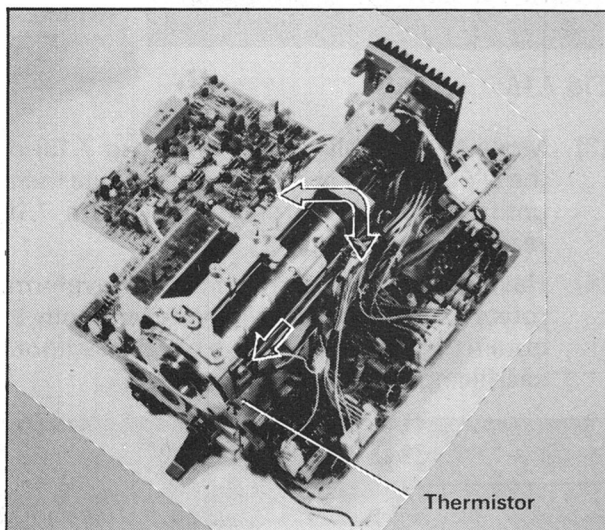
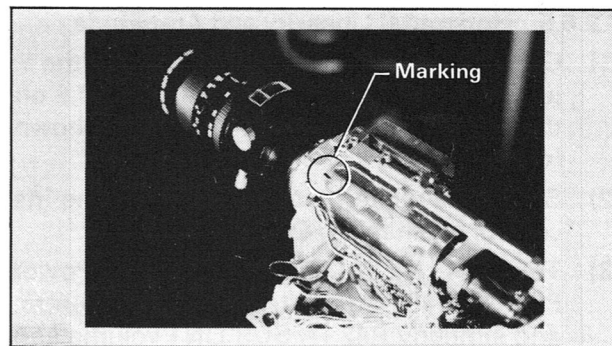

Fig 7.20 DY Securing Screws
Fig 7.21 DY and Body Frame
- (1) Loosen the two DY securing band screws and one DY screw as indicated by Figure 7.20
- (2) Set the camera body level and shoot a subject such that the horizontal line can be confirmed on the TV monitor. Then, rotate the DY until the picture on the TV monitor is level
- (3) When the DY horizontal line is correctly aligned, apply alignment markings to the DY and the body frame as shown by Figure 7.21